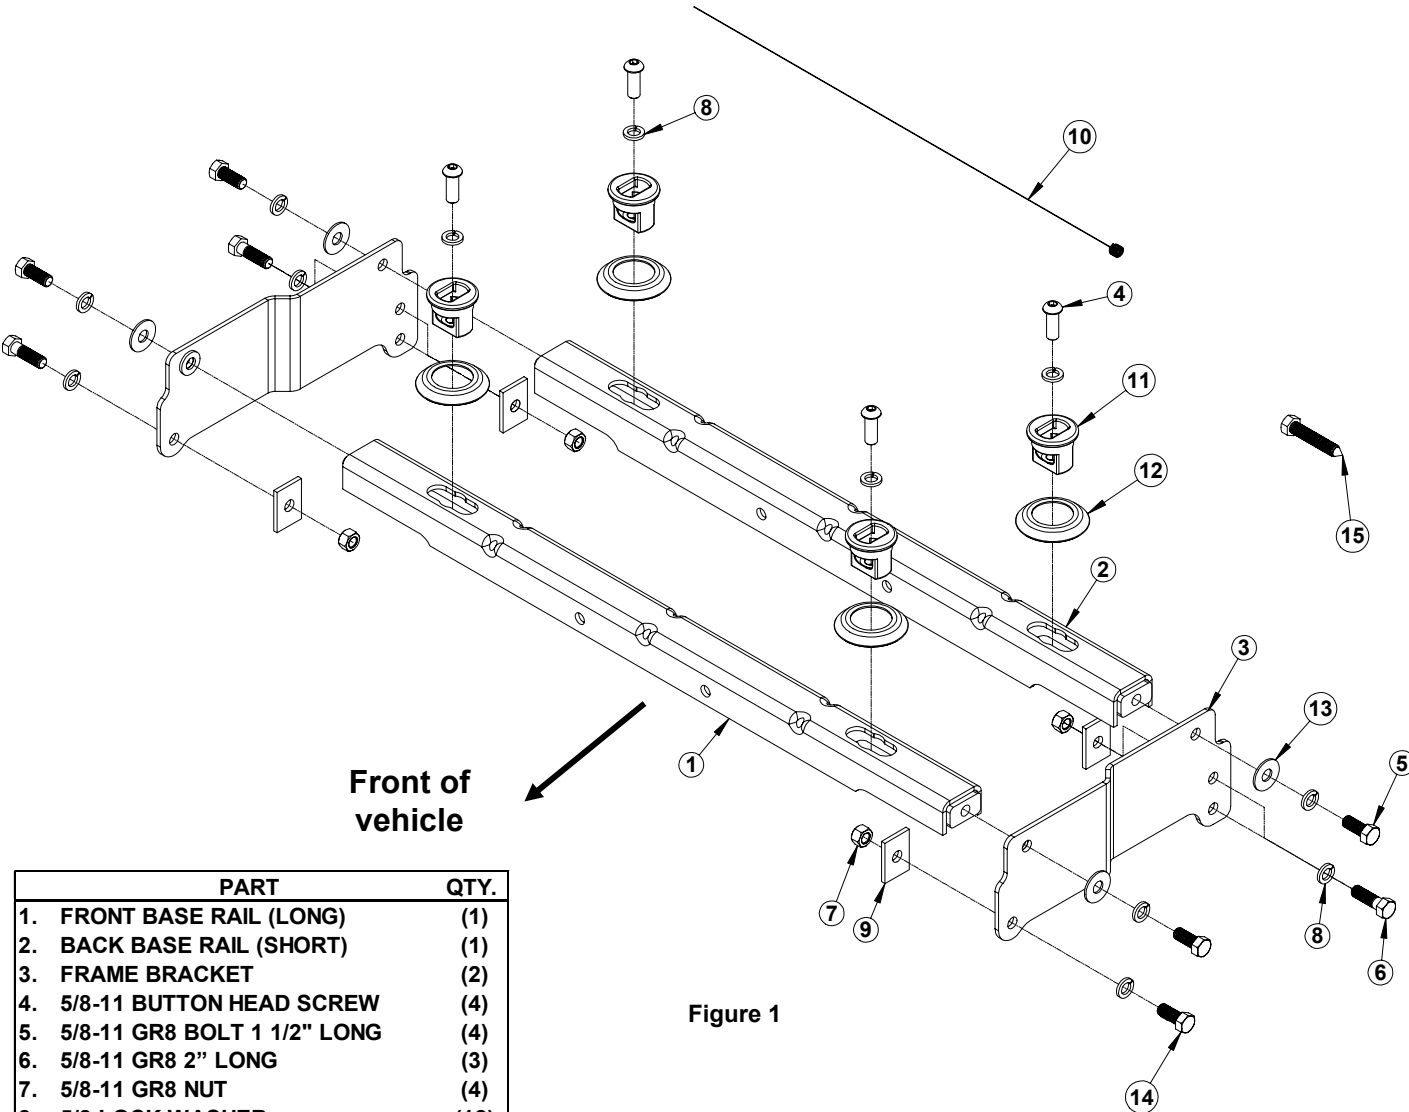

Figure 1
1. The following instructions should be used to mount the 5th wheel. Care and attention to detail will ensure a quick quality installation. Check parts against parts list to become familiar with parts in kit. (**Figure 1**)